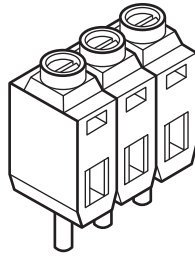

Fig. 12.3
- (iv) Fig. 12.3 shows a screw terminal block that can be used to make connections to a circuit board.